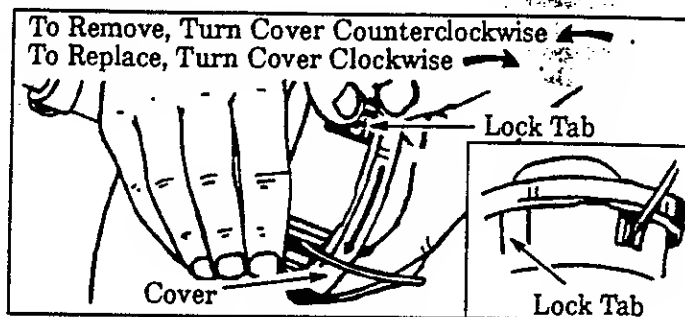

Figure 16
- Hold the Trimmer Head as shown in Figure 16 . Press the Lock Tab and turn Cover counterclockwise ← .
- Remove the Cover and Spool. Figure 16 .
- Insert about 6 inches of Line from the inside of the Hub through the Line Exit Hole to the outside to keep the Line from backing into the Head. Figure 16 .
- Turn Cover clockwise → . Figure 16 .